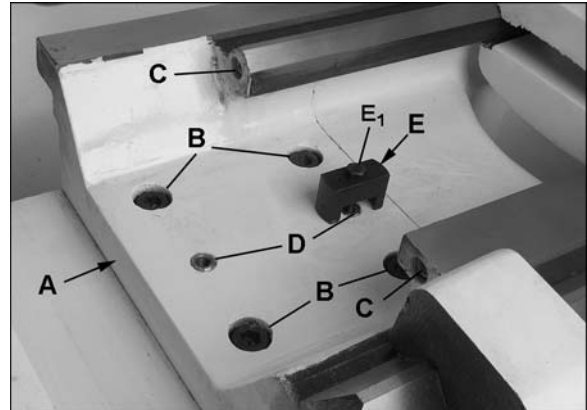

Figure 41 – Gap section
1. To remove the gap section (A, Figure 41), remove four socket head bolts (B) and two socket bolts at the ends of the rails (C).
2. Remove the two tapered alignment pins (D) by placing the provided gap bridge pin driver (E) over them and threading the screw (E1) down into them, until the pins are loosened enough to be pulled out.